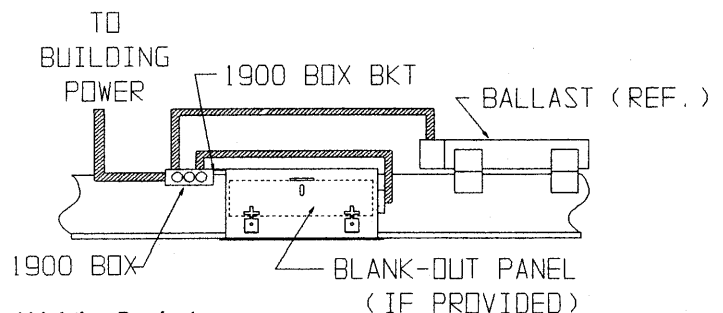

FIG. 3
8. Drop flex-conduit through top of fixture. Make all connections to 1900 box. Push flex and 1900 box Back into ceiling. Slip 1900 box bracket into slot on side of fixture housing. (See fig. 3)
12. Insert (2) #10 machine screws provided in hardware package into mounting holes on door frame. Slip Fiber captive washers onto screws so screws will be retained for future maintenance.